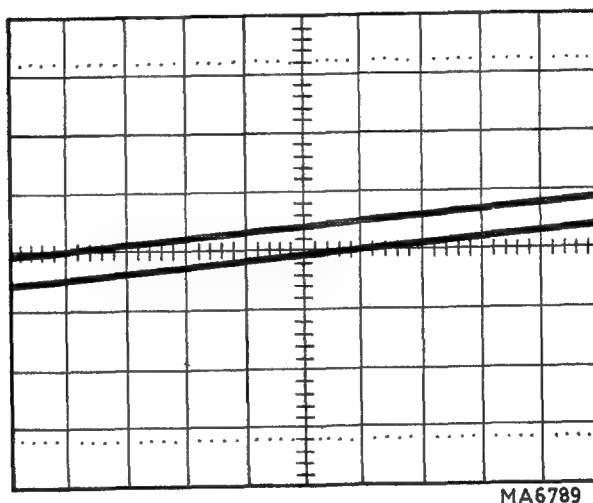

Fig. VIII-15. Enlarged portion of the display with one measuring point shifted to its nearest vertical graticule line
- Shift the display by means of the POSITION control, until one of the measuring points is aligned with its nearest vertical graticule line shown in Fig. VIII-15.